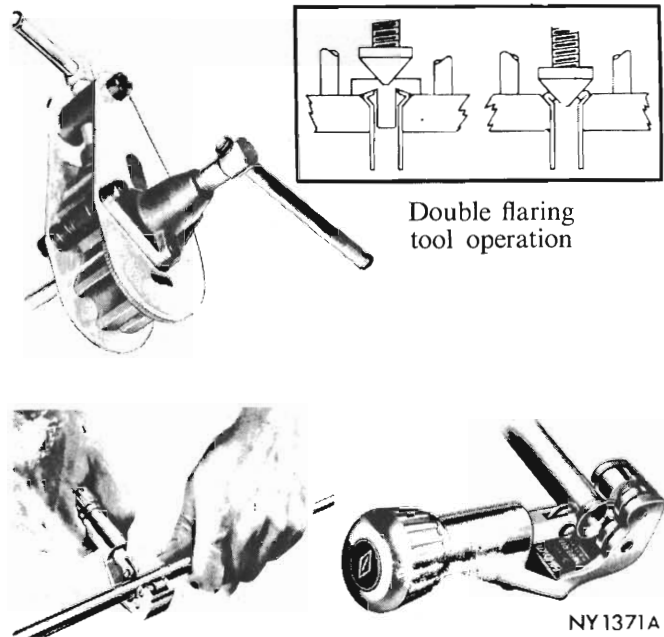

Fig. 8 – Cutting tool operations
(1) Using Tool E5C15 cut off the damaged seat or damaged tubing (*see Fig. 8*).
(2) Ream out any burred or rough edges showing on inside edges of tubing. This will make the ends of the tubing square and ensure better seating of the flared end of the tubing.